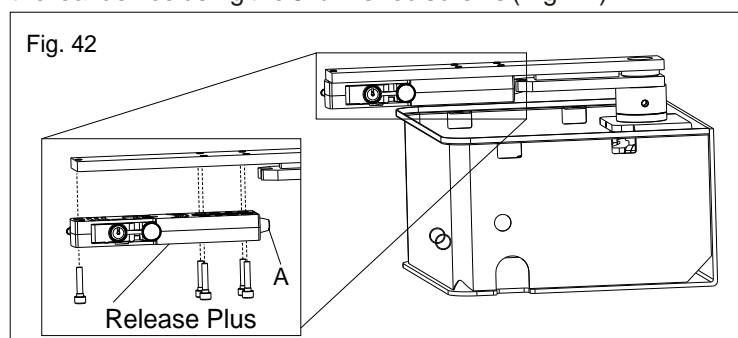

Fig. 42
13.2. Grease the hinge (A) and mount the release system under the leaf device using the 5 furnished screws (Fig. 42).